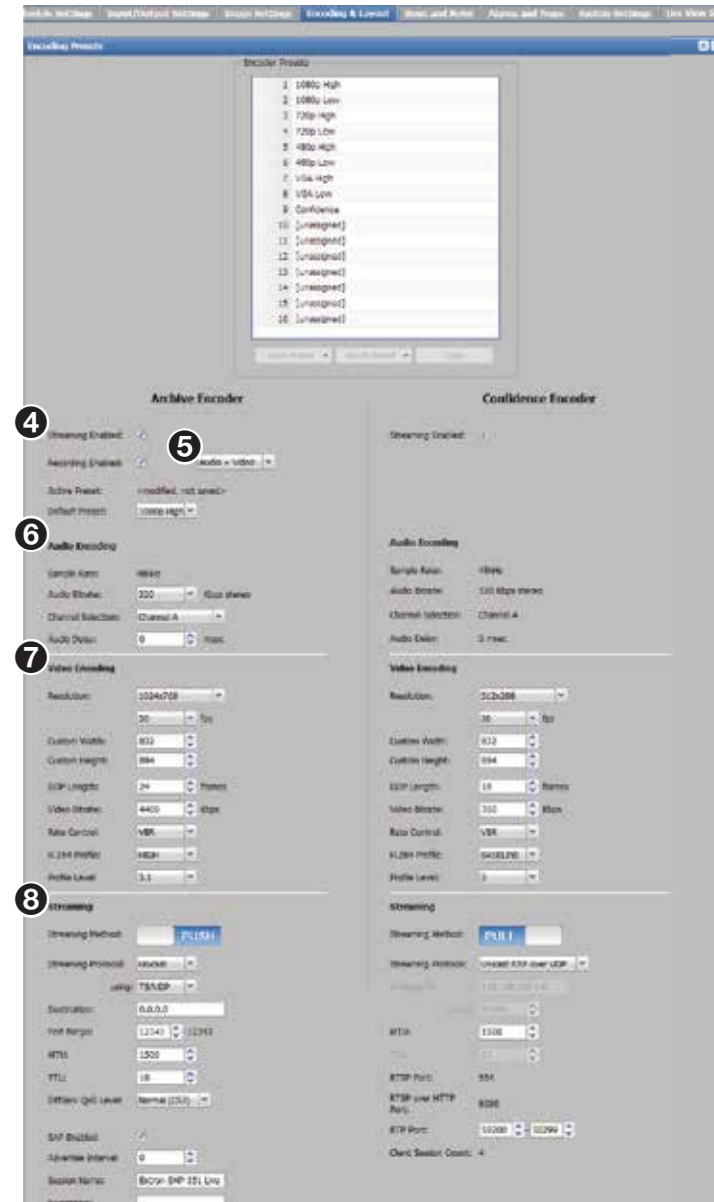

Figure 62. Encoding & Layout, Encoding Presets
2. In the Video Encoding panel (part of **figure 62**, shown below), select a video resolution from the **Resolution** drop-down list.
- If you want to select **Custom** for video resolution, you must specify the **Custom Width** and **Custom Height** (see figure 62, **7**). Selecting **Custom** from the **Resolution** drop-down list simply applies the custom resolution; it does not specify the dimensions.
3. Select a frame rate (in frames per second) from the **Resolution** drop-down list (part of **figure 62**, shown below).
9. Select an encoding profile level from the **Profile Level** drop-down list (part of figure 62, shown below). This sets the upper limits of resolution, bit rate, and frame size. Settings are from 3.0 (for lower limits) to 4.1 (for higher limits).